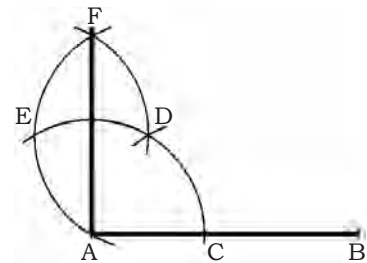

Fig. 1.12: Drawing a perpendicular to a given line
- The connecting line AF is the perpendicular line to line AB (Fig. 1.12).